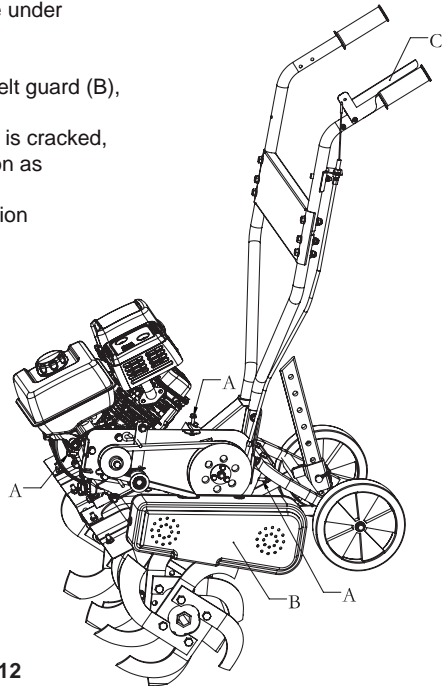

Fig. 12
2. Remove the 3 M6 bolts (A), and remove the belt guard (B), and then access the V-belt (See Figure 12).
4. Press the clutch handle (C) to the lowest position (See Figure 12), Check the V-belt tension by squeezing them in the center. The normal deflection on each side should be 9mm (3/8") to 13mm (1/2") with moderate pressure from your thumb or finger.
1. Remove the 3p M6 bolts (A), and remove the belt guard (B), and then access the V-belt (See Figure 12).